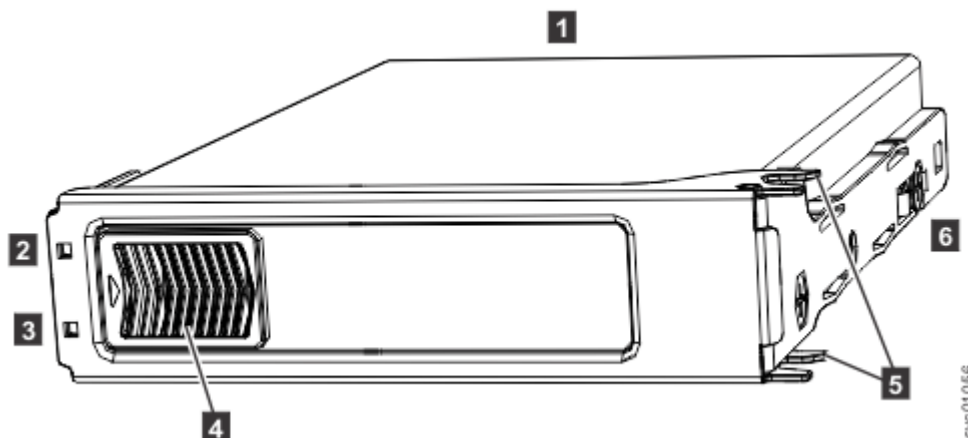

Figure 101. Drive assembly
The 5U expansion enclosure supports 92 drives. Figure 101 on page 158 shows an example of a drive assembly.
**Note:** When a drive is faulty, the amber fault indicator is lit (3 in Figure 101 on page 158). Do not replace a drive unless the drive fault indicator is on or you are instructed to do so by a fix procedure. When lit, the green indicator shows that activity is occurring on the drive.
**Note:** When a drive is faulty, the amber fault indicator is lit (3 in Figure 101 on page 158). Do not replace a drive unless the drive fault indicator is on or you are instructed to do so by a fix procedure.